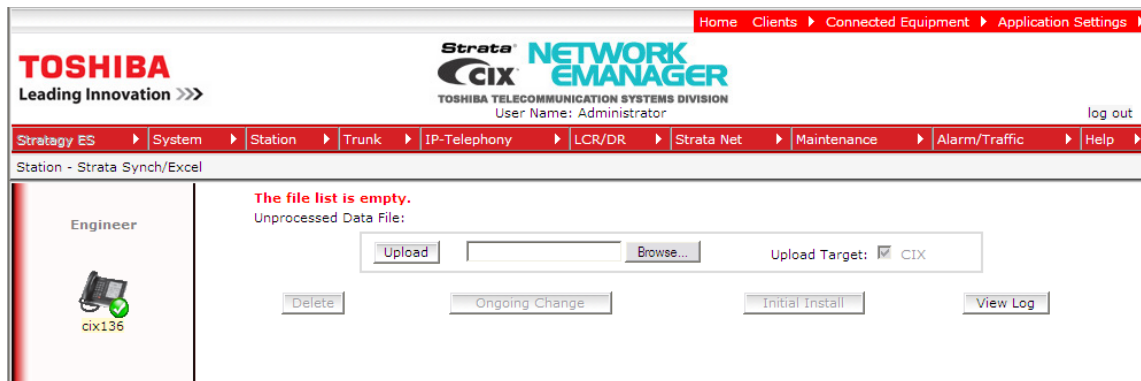

Figure 2-2. Strata Synch/Excel
- Click on the **Browse** button as shown in Figure 2-2.